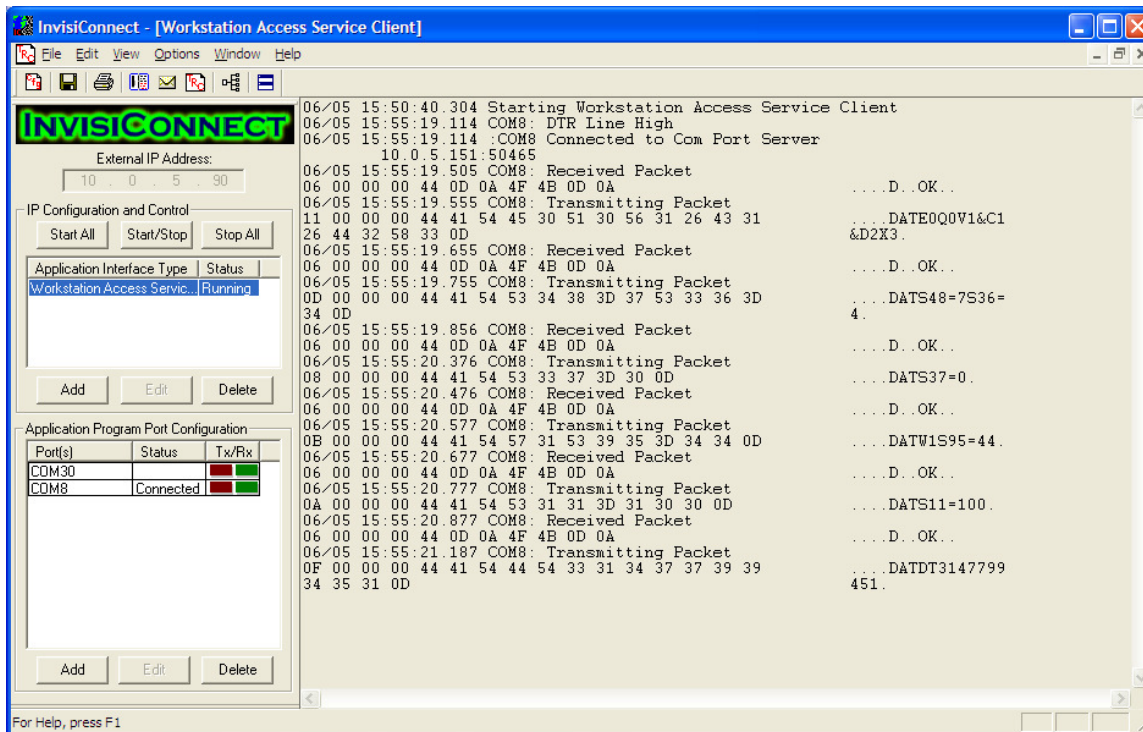

Figure 24 – WAS Configuration – Sample Data
8. Figure 24. All data routed through the WAS Server and all CNI client modems are managed by the InvisiConnect™ WAS server. This includes the SMS paging function. The WAS Client can be used on any workstation that has the ability to connect to the InvisiConnect™ WAS server, whether wired, wireless, internal or external connection.